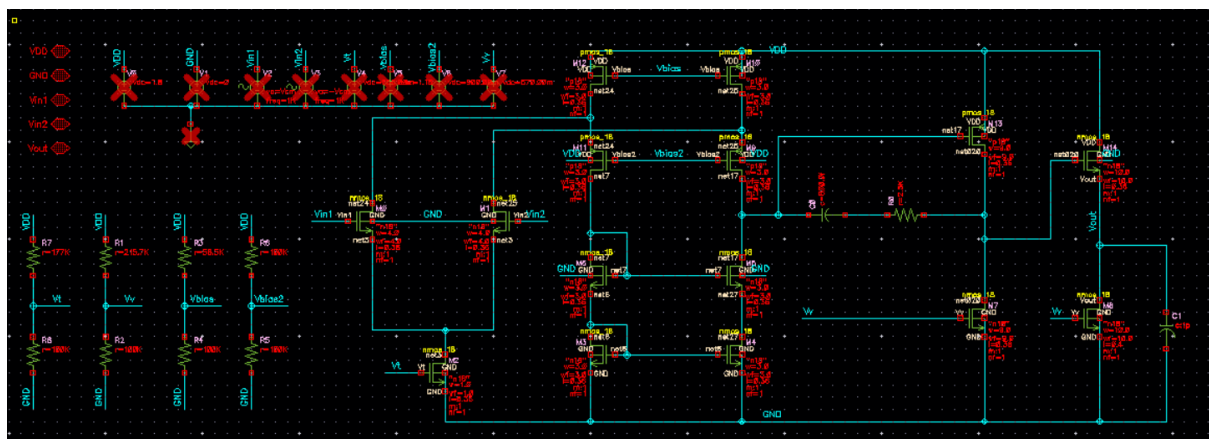

Figure 1: Schematic
- Design a 2-stage OPAMP with a Folded Cascode first stage, followed by a Common Source (CS) stage (refer to Fig. 1) for the following specifications. Use the previously designed Voltage and Current Reference for biasing. You need to use Miller Compensation for this task to design the desired circuit.